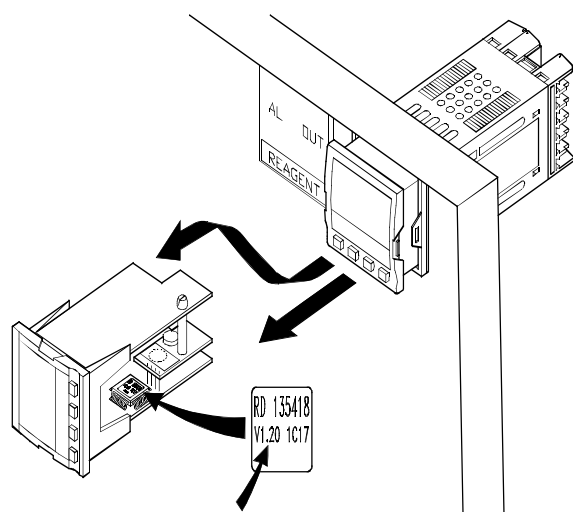

Figure 2: Firmware Revision Location
3. Remove Temperature Controller. (See Figure 2.)
4. Rotate Temperature Controller to view firmware version. (See Figure 2.)